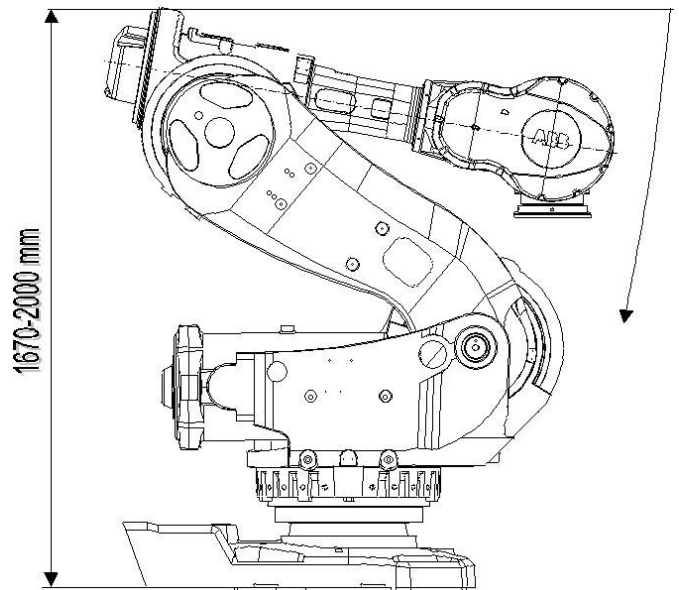
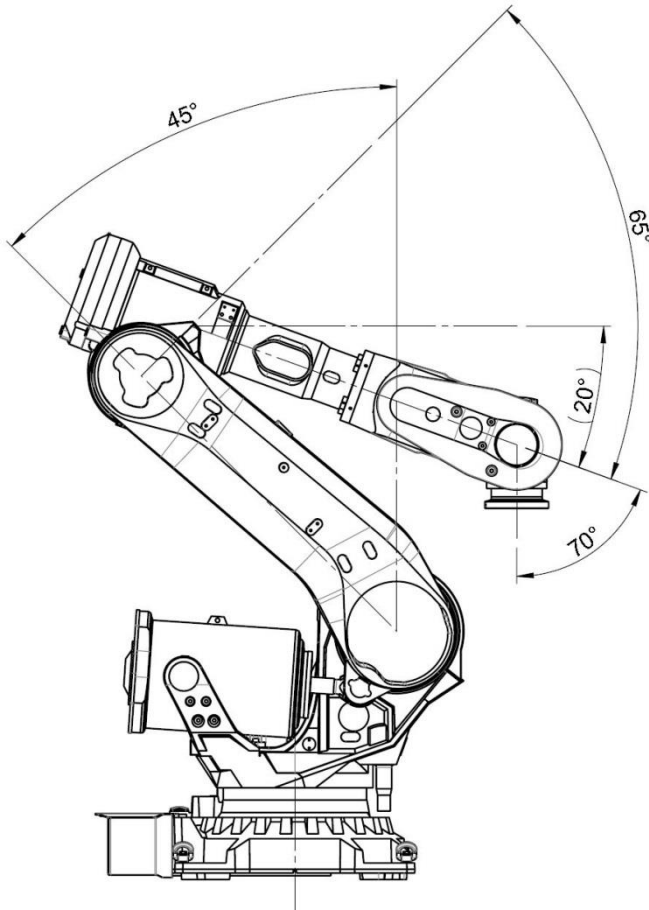
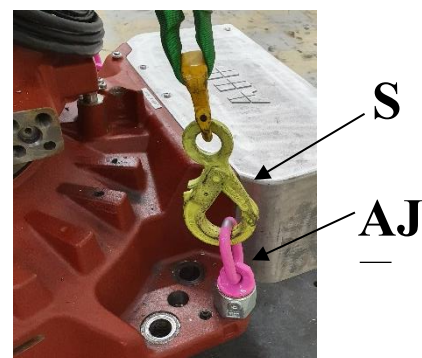

Figure 6. Approved lifting position - IRB 7600.
Figure 7. Approved Lifting position - IRB 6700.
Figure 23. Lifting eye assembled in the base.
- The robot's arm system should be in the position shown in figure 7.
2. Fit the swiveling lifting eyes (M16) (T) into the lower holes on the stand intended for fork lift truck brackets. For IRB6620, IRB6640 and IRB6700 4 lifting eyes (AJ) are fitted in the robot base, see figure 23. Tighten the lifting eyes (T) hard against the surface, ensure that good contact is made.
3. The hooks (S) are fitted in the lifting eyes (T), the safety latch must be locked. Make sure that the four round lifting slings (4) are not twisted.
4. When lifting IRB 6600, 6640, 6650, 6650S, 6660 or 6700 the lifting eye (H) should be fitted in one of the threaded holes (N) located in the flange between wrist housing (K) and the upper arm (L), if the hole/s (N) is directed upwards or diagonally upward. Otherwise a 1 ton lifting strap should be used, see figure 16. When lifting IRB 7600 the lifting eye (H) should be fitted in the threaded hole (if one is featured) in the wrist housing (K), if this is oriented as set out in figure 6. If the wrist housing (K) is rotated 180 degrees, compared to that shown in figure 6, the lifting eye (H) can be fitted in any of the faceplate (P) holes. If the wrist housing (K) is orientated in any other way (rotated +/- 90 degrees) or there is no threaded hole, a 1 ton lifting straps should be used instead, see figure 7. The lifting eye (H) is to be tightened hard against the surface, ensure that good contact is made. Use a fixed wrench/U-ring spanner 19 mm or a hexagonal key 8 mm.